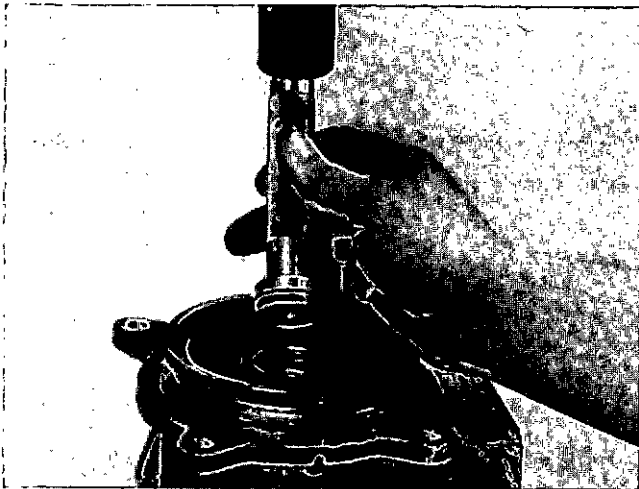

Fig. 8-26 (N10869). Install The Seal Into The Housing.
3. Use the Part No. ST-1154 Seal Mandrel to push the small seal (12, Fig. 8-15) into the water pump housing (9). The seal must be even with to 0.015 inch [0.38 mm] below the edge of the bore, Fig. 8-26.